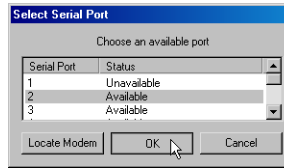

Figure 2-27. Select Serial Port and click OK
- From the **Select Serial Port** tab, highlight the corresponding computer serial port (the same you used in step 1 on page 2-21) and click **OK** (Figure 2-27).